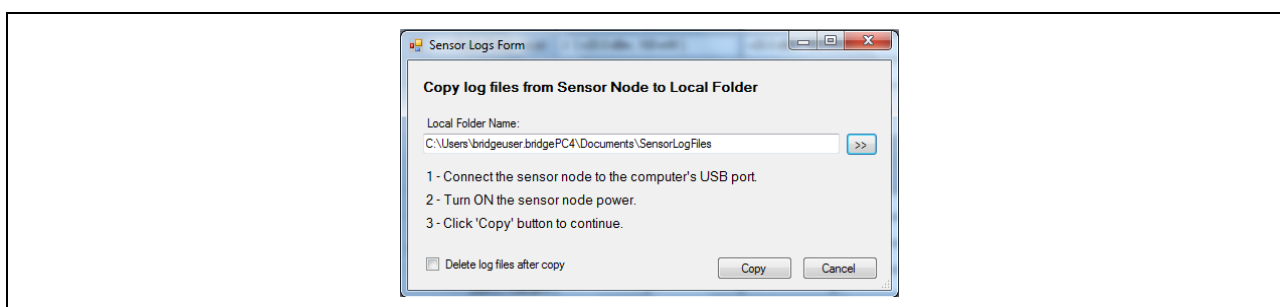

Figure 18 Copy Sensor Logs Dialog
- 2 Select the Tools->Copy Sensor Node Log Files... menu item which should display the Sensor Logs Form shown in Figure 18.